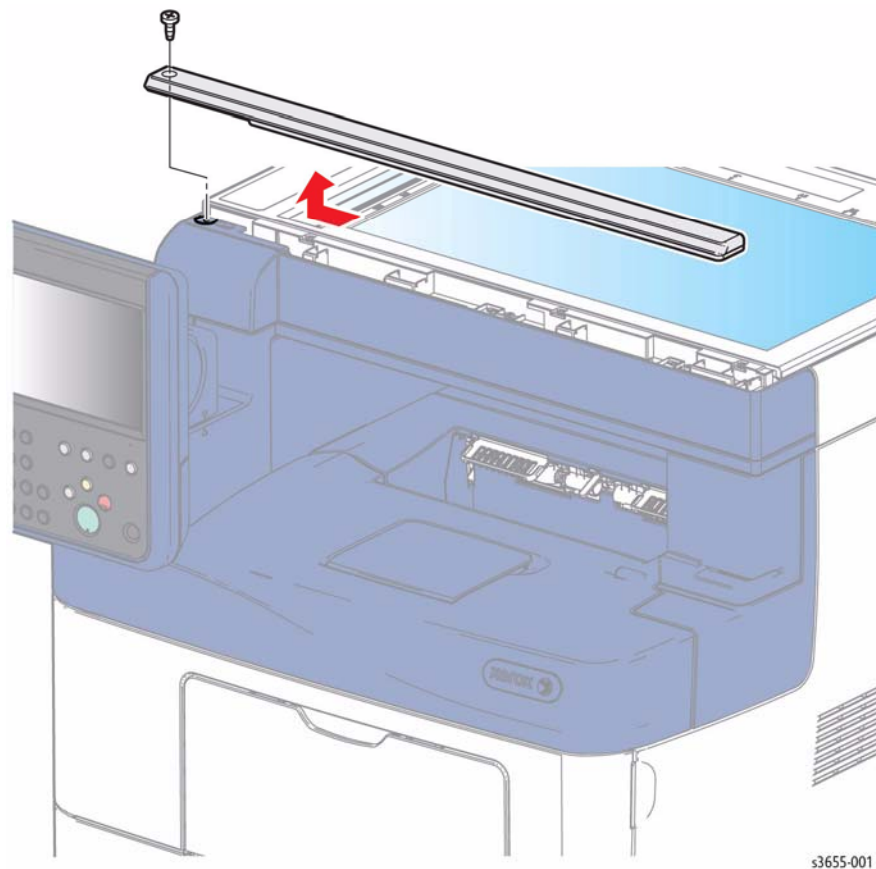

Figure 1 Remove the IIT Top Cover
2. Refer to Figure 1 to locate a screw (silver, M3, 6mm) that secures the cover.